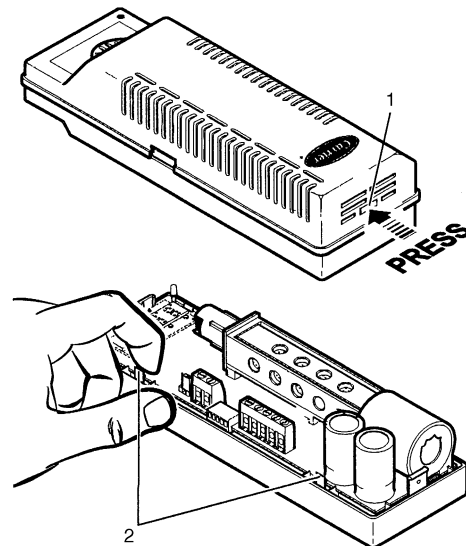

Fig. 2 — Removing Cover and Circuit Board
1. As shown in Fig. 2, press the spring tab at the top end of the case (Fig. 2, Item 1) and lift the cover away from the base.
2. Release the two spring clips from the right-hand edge of the circuit board (Fig. 2, Item 2) and lift away from its engaged position. See Fig. 2.